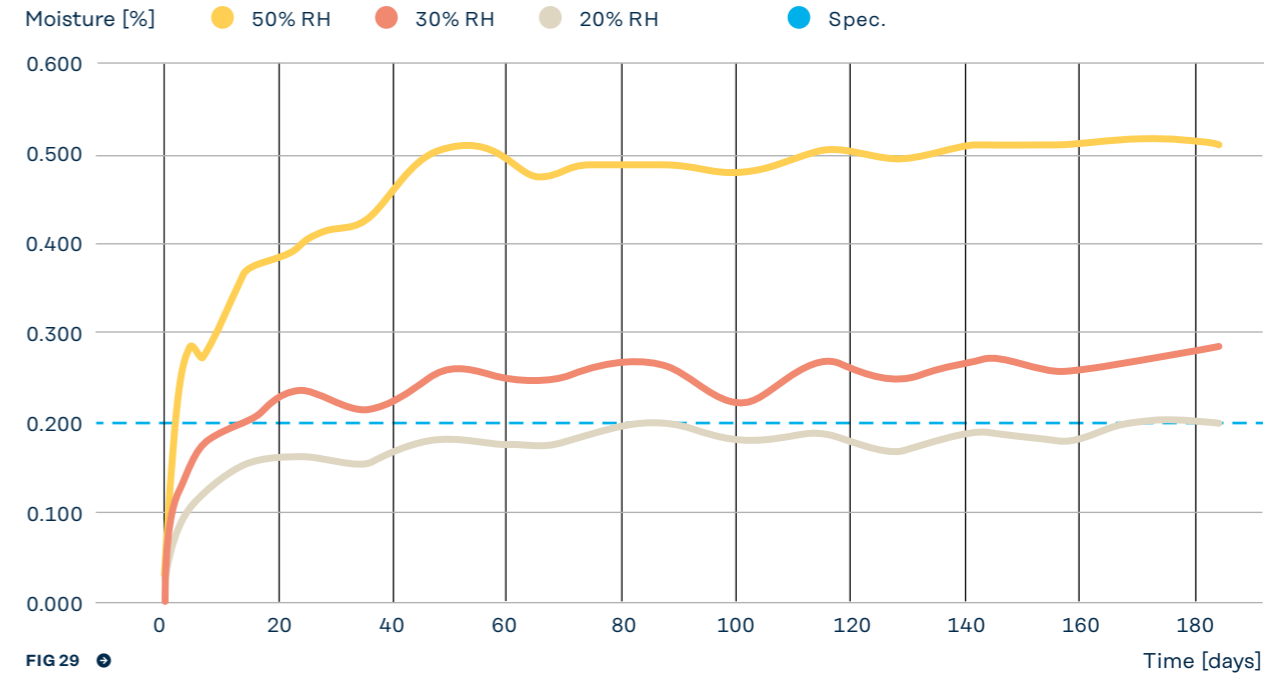

FIG 29
1. Storage & Handling: Due to the increased surface area versus bulk thin sheeting absorbs moisture at a faster rate. Figure 29 is a graph showing moisture absorption versus time for 3 different (20, 30 and 50 %) relative humidity.